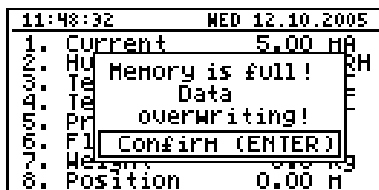

Fig. 7.16. warning in **cyclic** recording mode
**"cyclic"** - after filling all the available memory with recorded measurement results, the measurement results recorded next will be written from the starting address in the memory, overwriting previously recorded data. During the first overwriting operation a warning message (Fig. 7.16) will be displayed; this message must be confirmed with the [ENTER] key. This warning shall be repeated when the unit is switched on. Instead of **"Time left"** parameter in the **"Device information"** menu the display will show the **"Data overwriting"** message. If the collected measurement results will be downloaded to a PC before memory is full, the warning message will not be displayed.